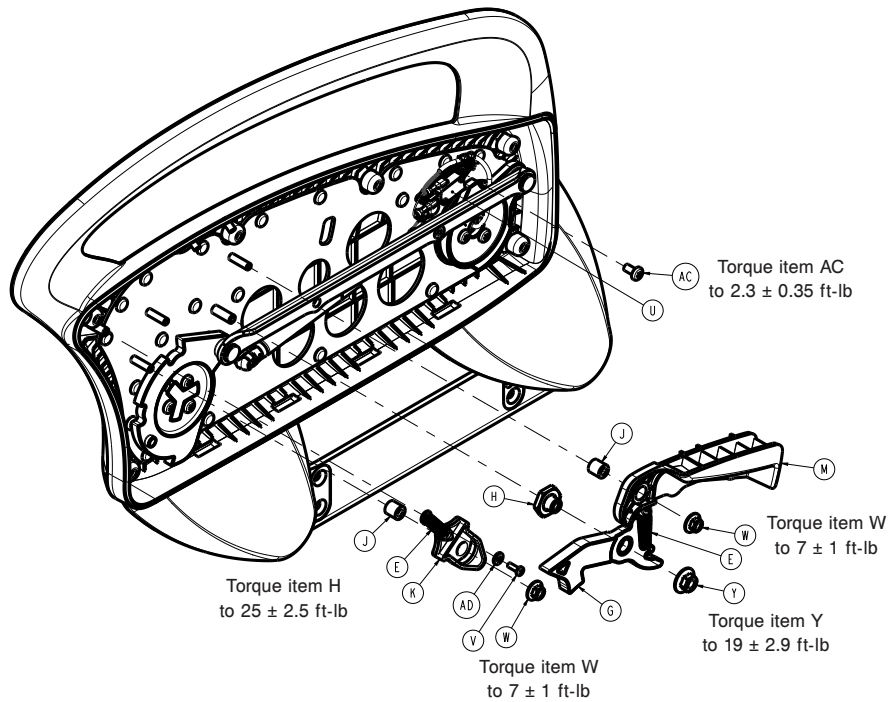

Figure 61 – Replacing the foot siderail hoop
7. Using a T25 Torx driver, remove the six screws (AB) that secure the cover (N) to the siderail assembly. Remove the outer siderail cover.
8. Using a T20 Torx driver, remove the screw (V) and washer (AD) that secure the spring (E) to the siderail hoop for the siderail detent paw (Figure 61).
9. Using a T30 Torx driver, remove the screw (AC) that secures the siderail switch assembly (U) and bracket to the siderail frame (Figure 61).